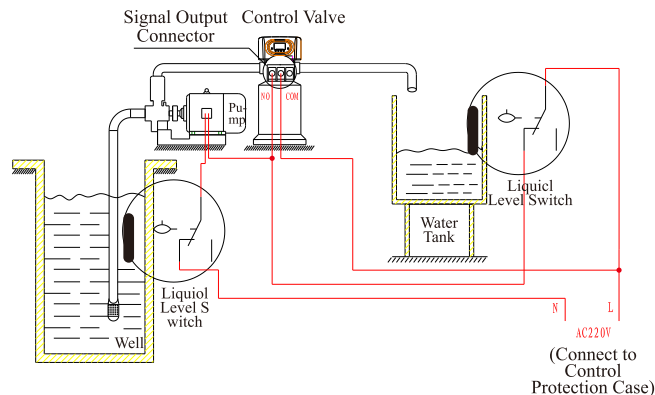

Figure 3-4 Wiring of Liquid Level Controller Controlling Inlet Pump
**Instruction:** For the system using underground water or middle-tank supplying water, users can turn on and turn off the pump by operating the switch of liquid level controller and control valve. The wiring refers to Figure 3-4: